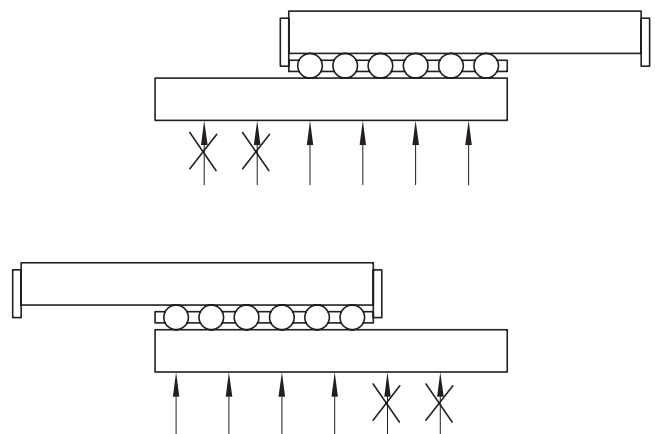

Figure 28. Preload adjustment.
- △ Only tighten pressure screws which are supported by the flat cage assembly (see figure 28).